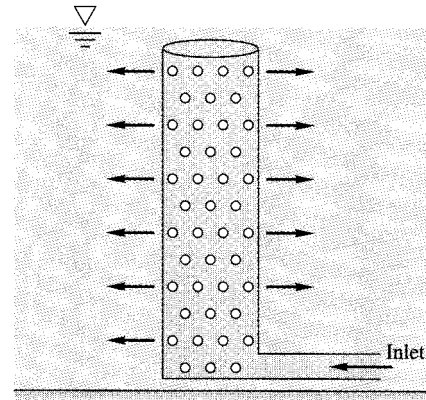

Fig. P8.11
**8.11** A power-plant discharges cooling water through the manifold in Fig. P8.11, which is 55 cm in diameter and 8 m high and is perforated with 25,000 holes 1 cm in diameter. Does this manifold simulate a line source? If so, what is the equivalent source strength  $m$ ?